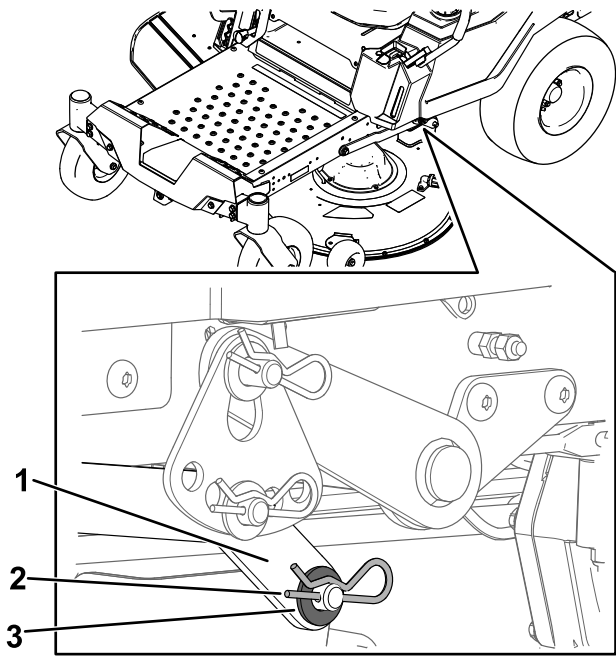

Figure 70
6. On 1 side of the machine, remove the washer and hairpin cotter from the deck pin (Figure 70).
- Remove the lift arm from the deck pin (Figure 70).
- On 1 side of the machine, lift the rear of the mower deck and install the lift arm to the deck pin (Figure 70).
- Install the lift arm using the washer and hairpin cotter (Figure 70).